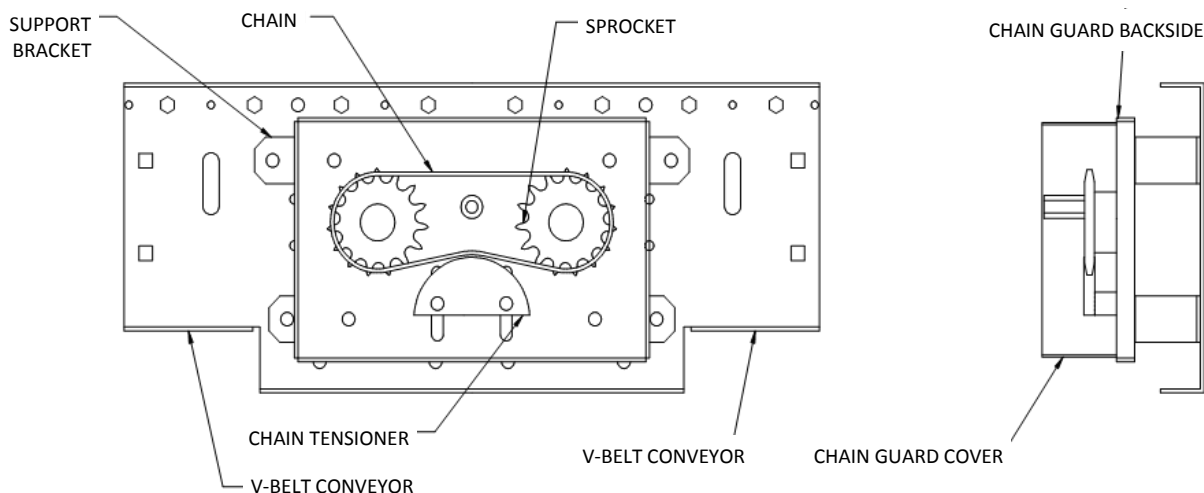

FIGURE 4A
- 2) Attach guard backside to conveyor frames. Slide guard over extended shafts and attach with support brackets. Note support bracket locations for connecting (2) V-Belt units together in figure 4A and 4B for connecting V-Belt to Flat-Belt sections.